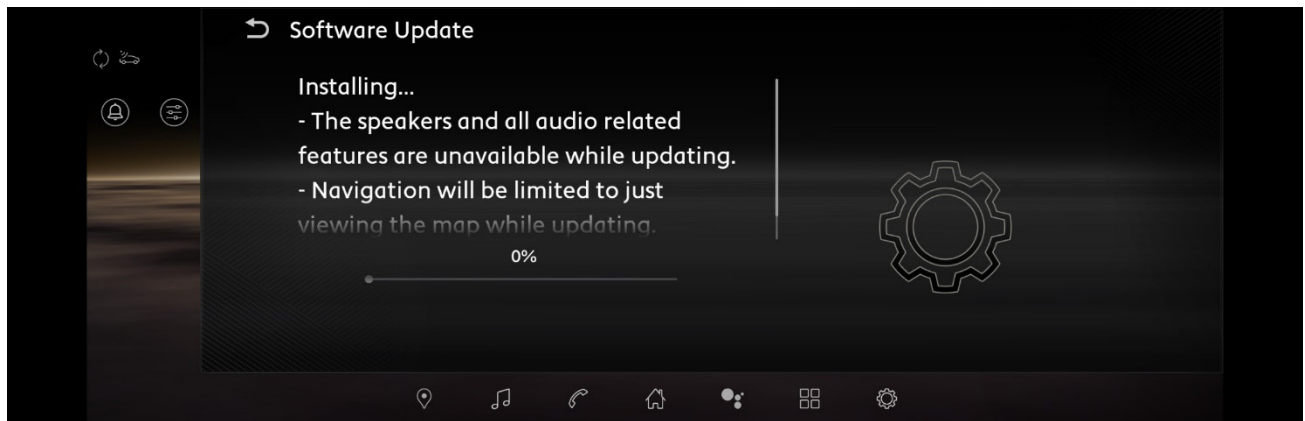

Figure 16
- Allow the update to complete (Figure 16).